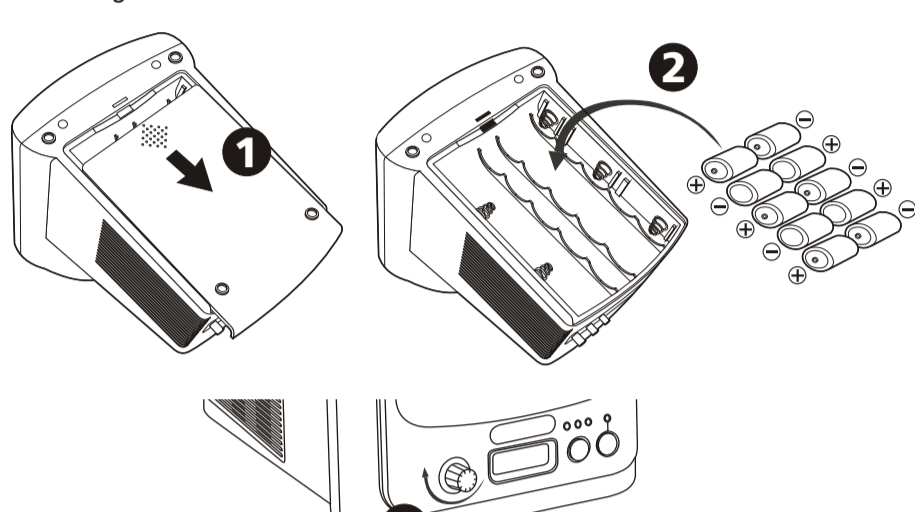

Fig. 10
1. Open the battery compartment cover on the bottom of the monitor. See Fig. 10.
2. Insert 10 C-size batteries, making sure to match the positive (+) and negative (-) ends to the diagram inside the battery compartment. Please refer to Fig. 10.
4. Turn the monitor on. The LED on the front of the monitor should light. See Fig. 10.